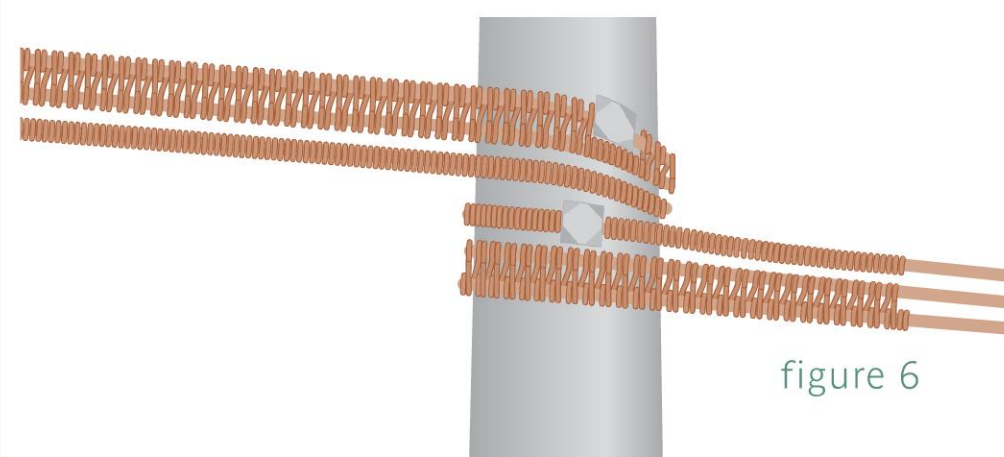

figure 6
- 22 Center the 6 beads on size 6½ or 7 of the ring mandrel. Wrap each side of the ring around the mandrel, being sure to wrap the coiled/beaded sections of each side of the frame so they end up being the middle wires on the ring (Figure 6).